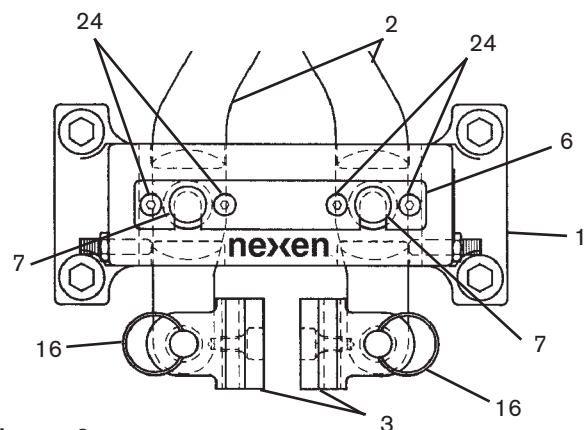

Figure 3
1. Pull Shoe Pins (Item 16) up and out (See Figure 3).
2. Remove Shoes (Item 3) (See Figure 3).
3. Remove the 4 Cap Screws (Item 24) (See Figure 3).
4. Remove the Pivot Pin Retainer Plate (Item 6) (See Figure 3).
5. Press the Pivot Pins out (Item 7) (See Figure 3).
6. Slide Arms (Item 2) out of Main Frame (Item 1) (See Figure 3).